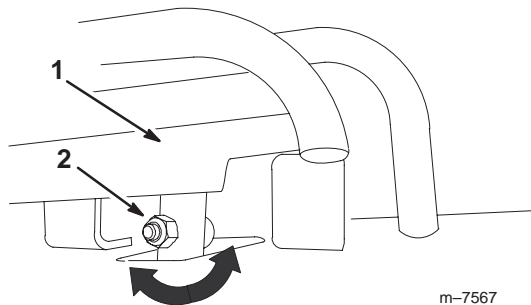

Figure 35
4. If the front of the traction control does not rest square and flush with the reference bar, loosen the flange nut and bolt in the stem of the traction control (Fig. 35).
5. Adjust the traction control so that it rest flush against the reference bar when it is pulled straight back (Fig. 35 and 36).